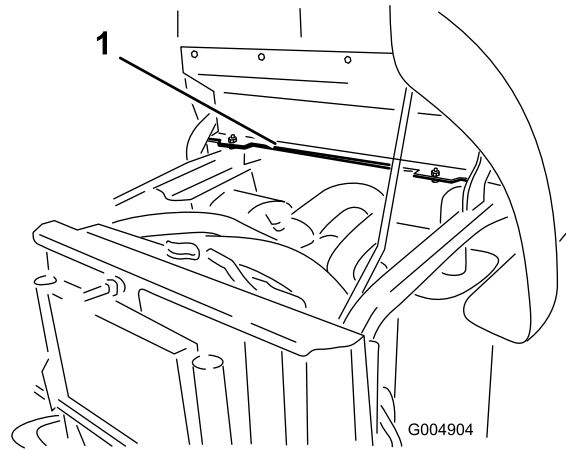

Figure 14
8. Locate the 2 mounting holes in the left side of the rear frame mount (Figure 14).